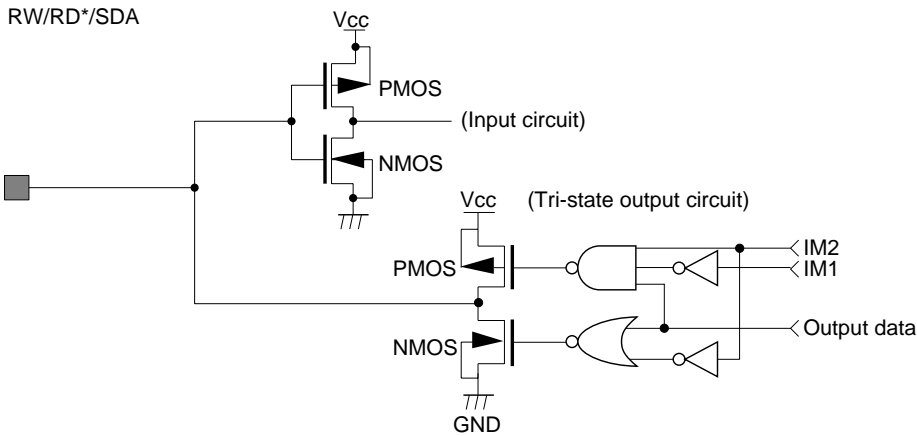

Figure 60 I/O Pin Configuration
- 2. The following three circuits are I/O pin configurations (figure 60).